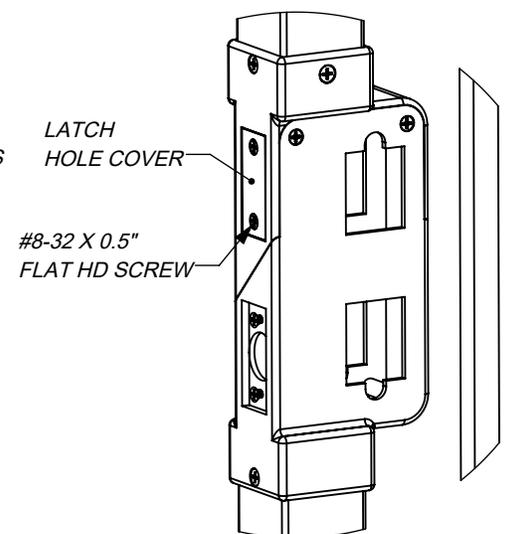

Figure 4
- 6) Place the latch hole cover into the upper latch hole in the assembled gate box, and secure with two #8-32 x 0.5" flat head screws (Figure 4). The remaining two #8-32 x 0.5" flat head screws will be used to secure the latch of the new lock set to the gate box.